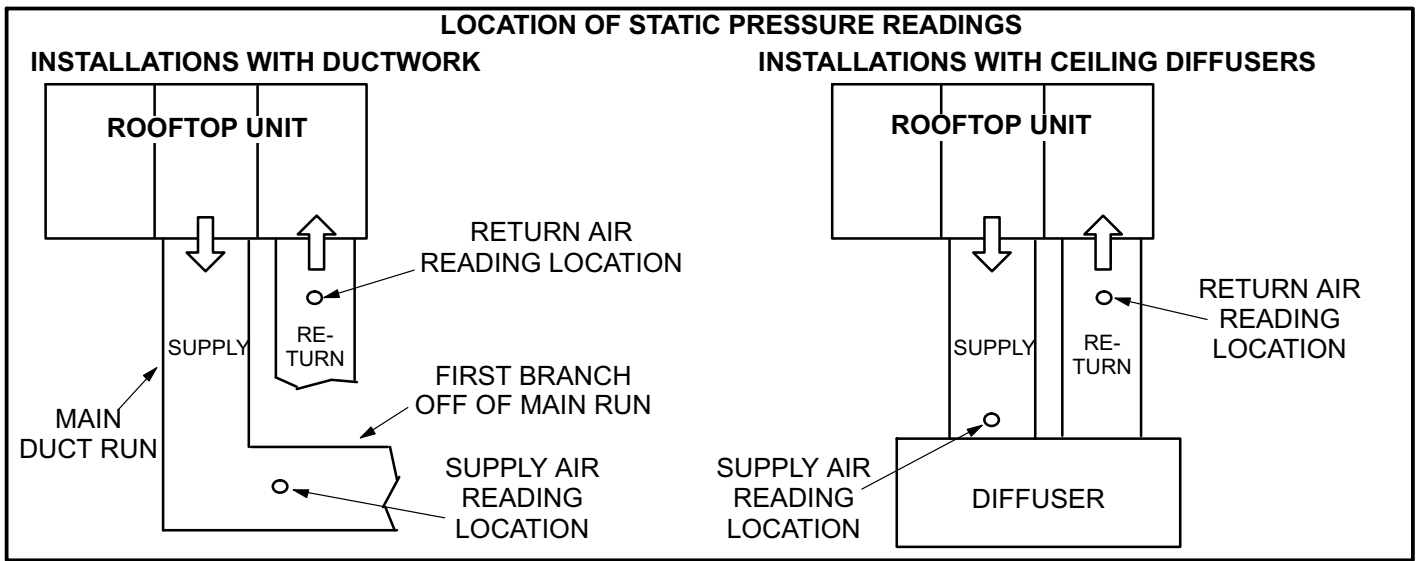

FIGURE 8
- 2- With all access panels in place, measure static pressure external to unit (from supply to return). Add any additional air resistance for options and accessories shown in accessory air resistance tables. Blower performance data is based on static pressure readings taken in locations shown in figure 8.
- 2- With all access panels in place, measure static pressure external to unit (from supply to return). Blower performance data is based on static pressure readings taken in locations shown in figure 8.